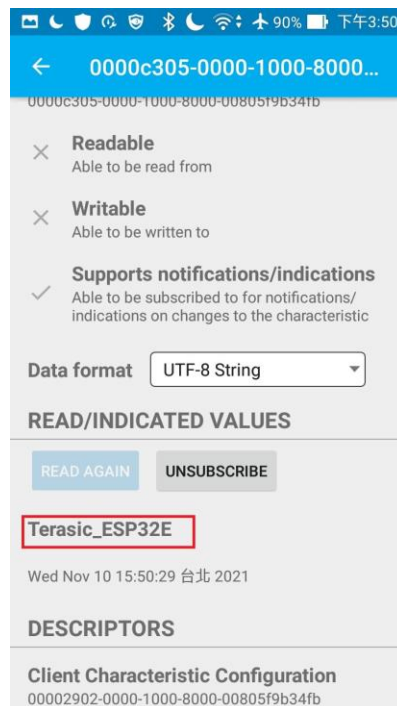

Figure 3-15 Read string from FPGA
- Press the KEY1 button on the DE10-Nano board, then a string “Terasic_ESP32E” will be send to the debug app from the FPGA board (See Figure 3-15).